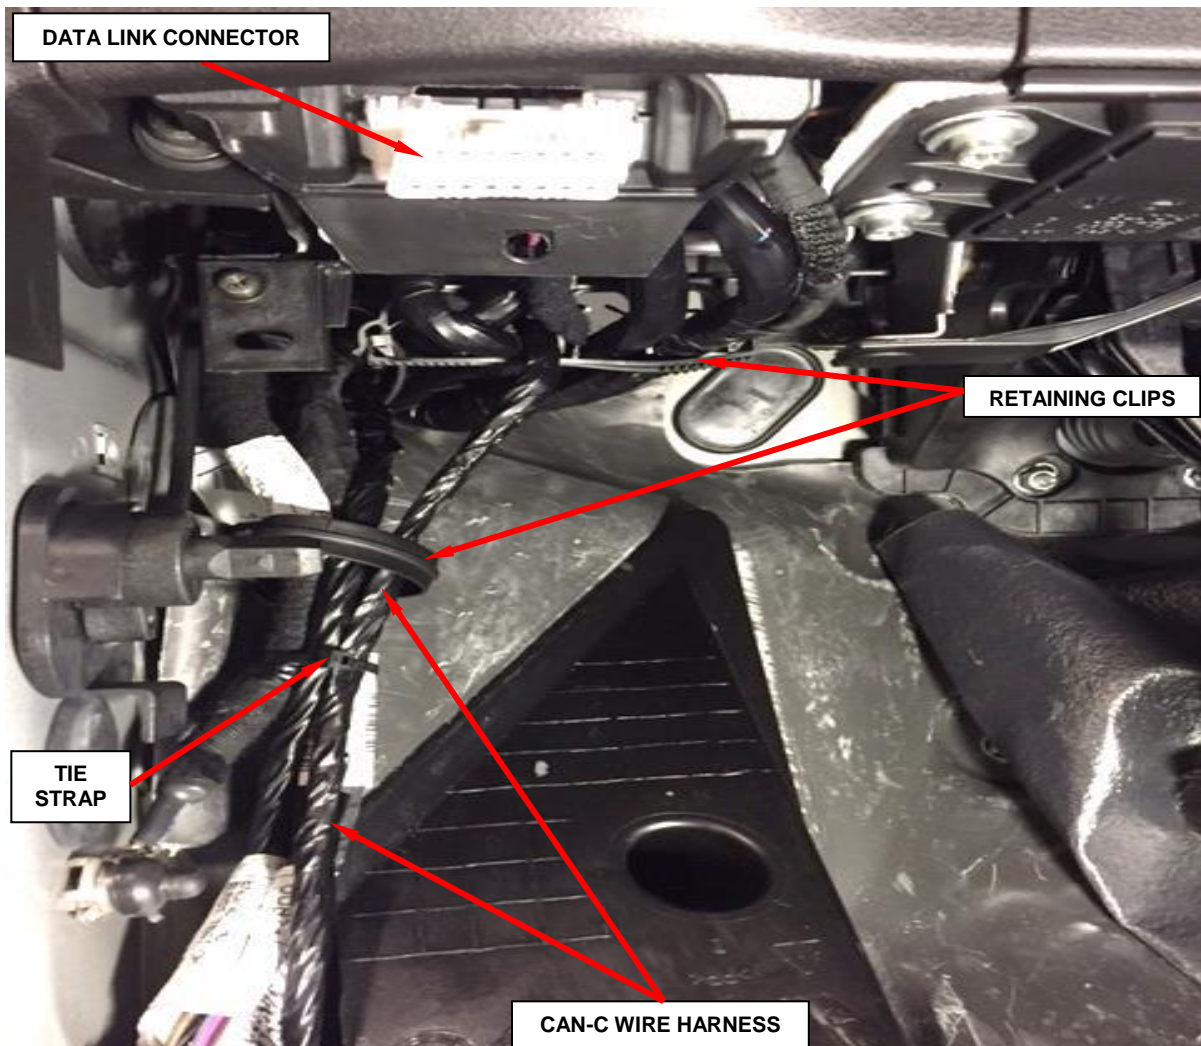

Figure 8 - CAN-C Wire Harness Routing
4. Route the CAN-C wire harness under the instrument panel and tie strap the wire harness to the body harness (Figure 8).
5. Release the retaining clips located near the data link connector (Figure 8).
6. Route the CAN-C wire harness through the retaining clips going toward the front of vehicle and close retaining clips (Figure 8).